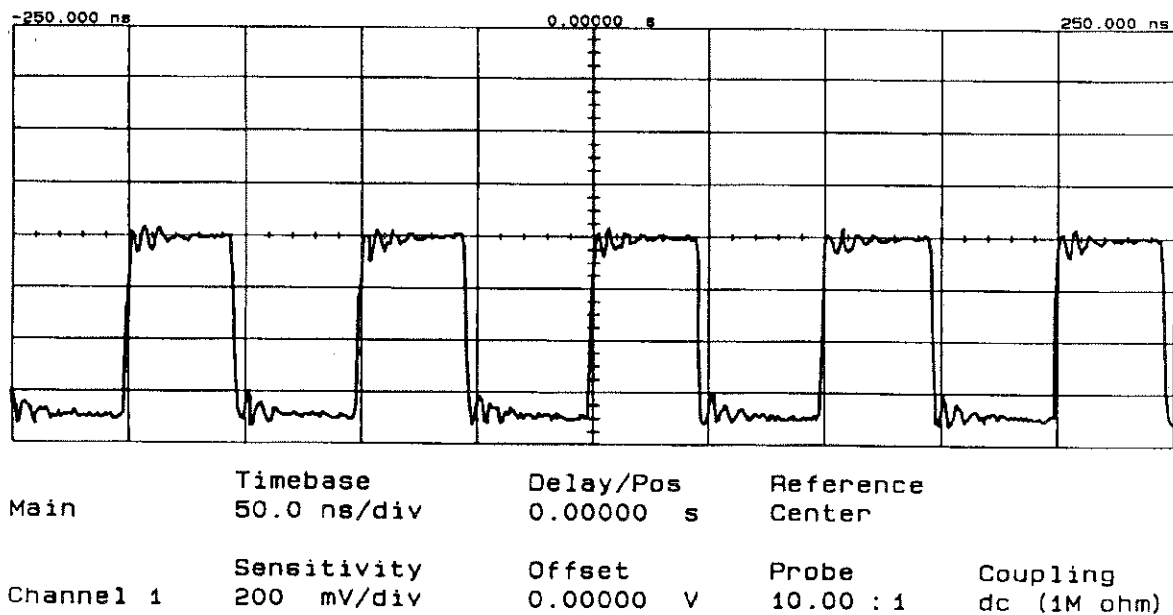

Figure 7-8. Waveforms at A2U4(13) and A2U15(13)
- E. Measure Comparator Hybrid output pin A2U4(13) [A2U15(13)]. This point should measure 0.9 Vp-p nominal. (The gain of the Comparator Hybrid is somewhat less than unity). The A2U4 [A2U14] Comparator output pin is a EECL-level digital signal that varies between 0V and -0.8 V nominal (See *Figure 7-8*).